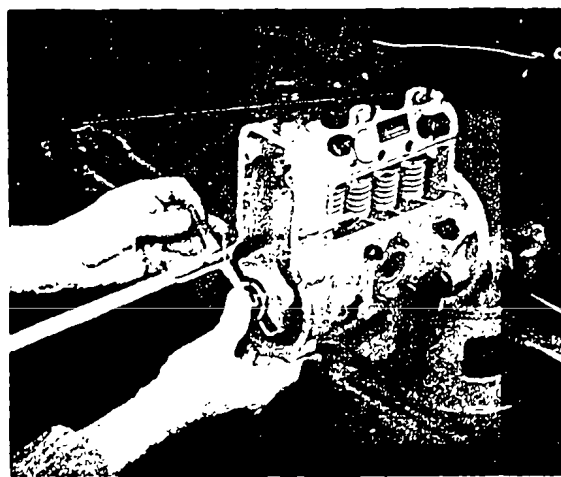

Fig. 40 Checking fitting dimension of knuckle
Insert deep-groove radial type ball bearing (32) into guide bush (34) (note sliding fit BMP 211/21). Place guide bush on rollers (4/1) of flyweights (1) (flyweights in rest position) and measure with the aid of a depth gauge the distance from the face of the deep-groove ball bearing inner race to the contact face of the housing cover (Fig. 40). Now select the correct thickness of shim-washers (33) to give the following dimensions.